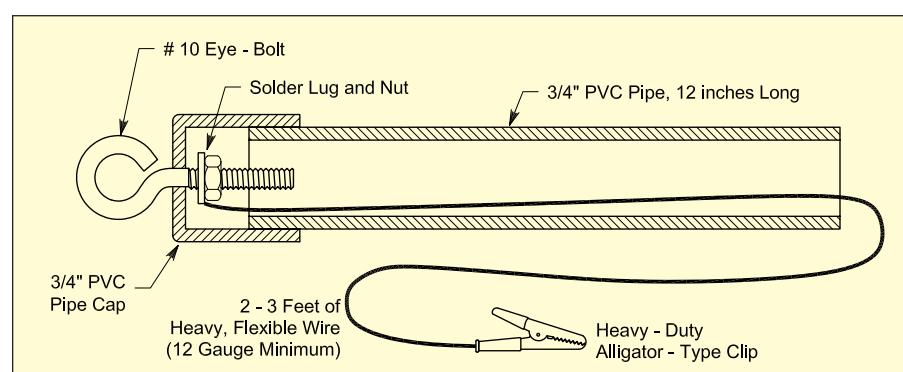

Figure 1—The "chicken stick" is a great way to ensure that everything inside the amplifier that should be discharged actually is. It can be a life saver.
• **A Chicken Stick**—Make this simple safety accessory shown in Figure 1 and use it whenever you work on equipment in which hazardous voltages have been present. The ground wire should be heavy duty (12 gauge minimum) due to the high peak currents (hundreds of amperes) present when discharging a capacitor or tripping a circuit breaker. When equipment is opened, touch the tip of the stick to *every* exposed component and connection that you might come in contact with. Assume nothing—accidental shorts and component failures can put voltage in places it shouldn't be.